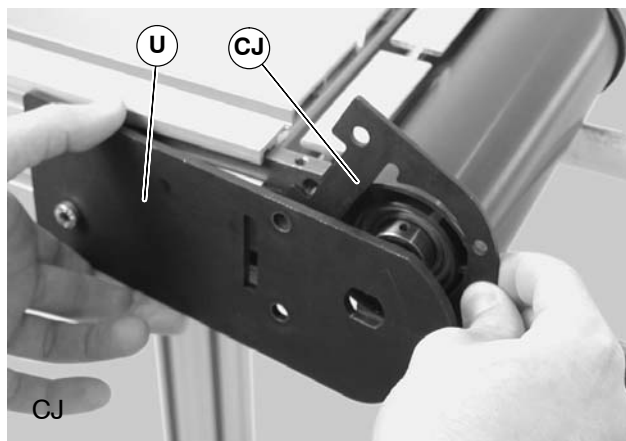

Figure 61
3. Pull back the outer headplate (U of Figure 61) and remove the inner spacer (CJ).